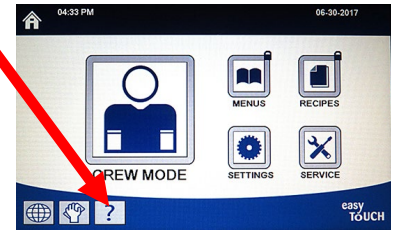

Figure 15
3. Press the **?** button (see Figure 15).